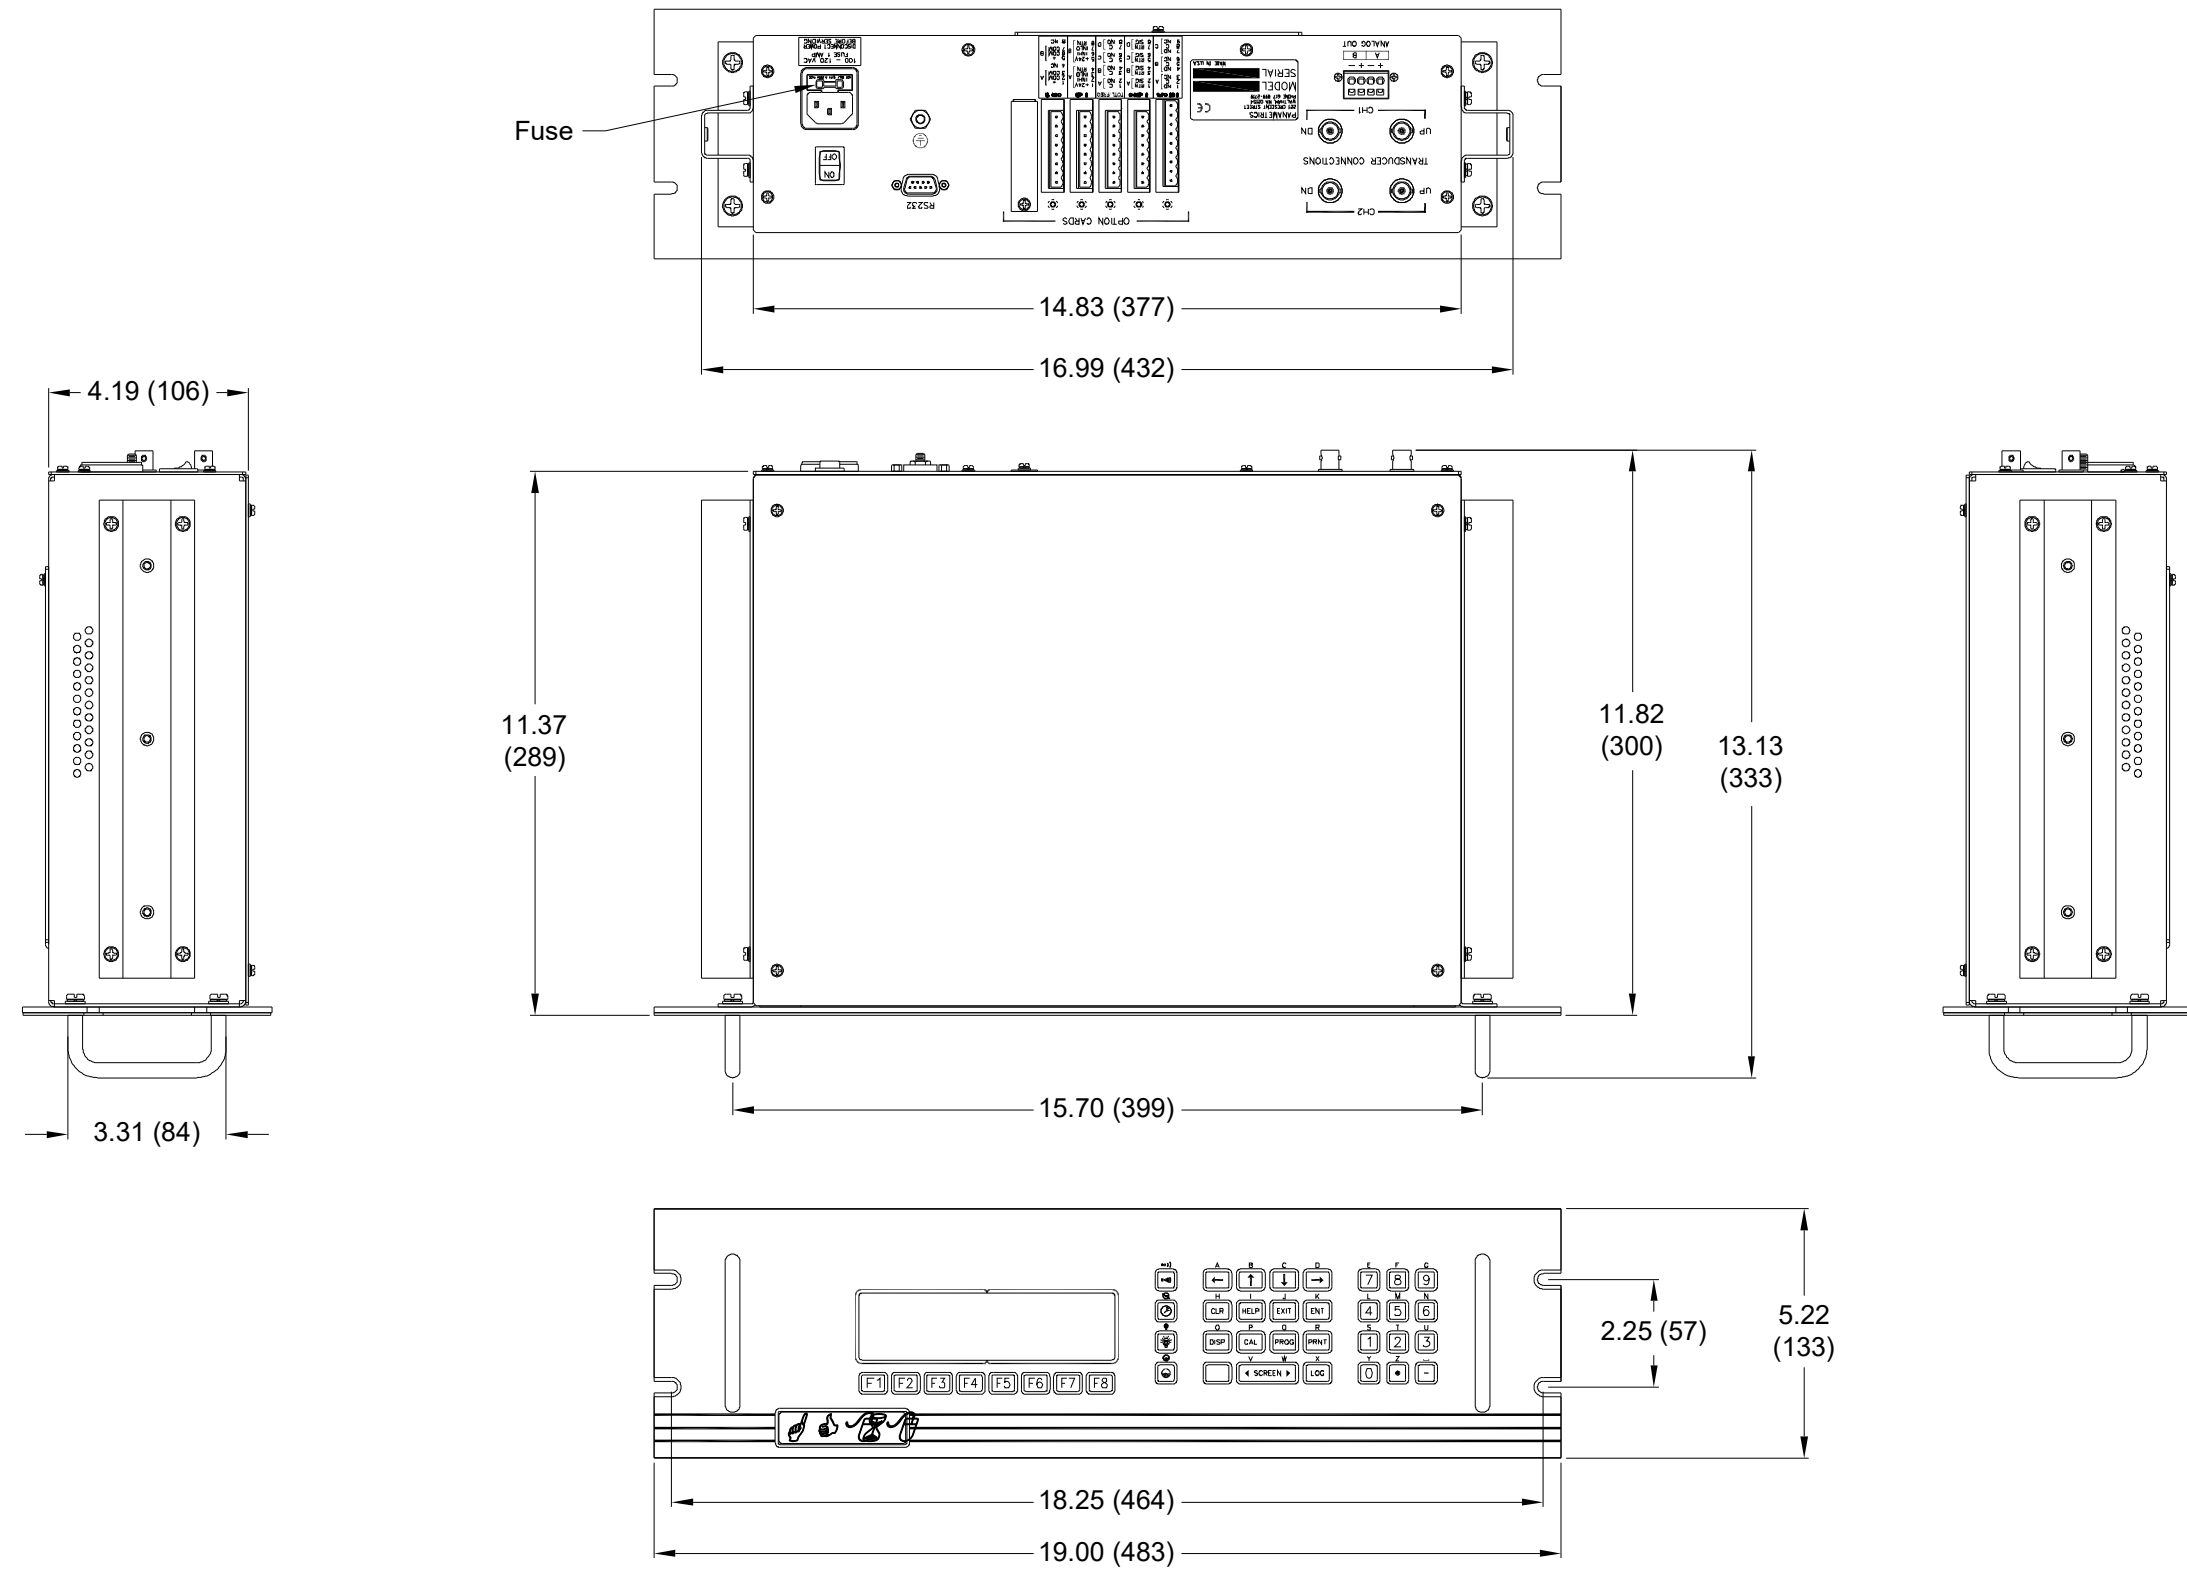
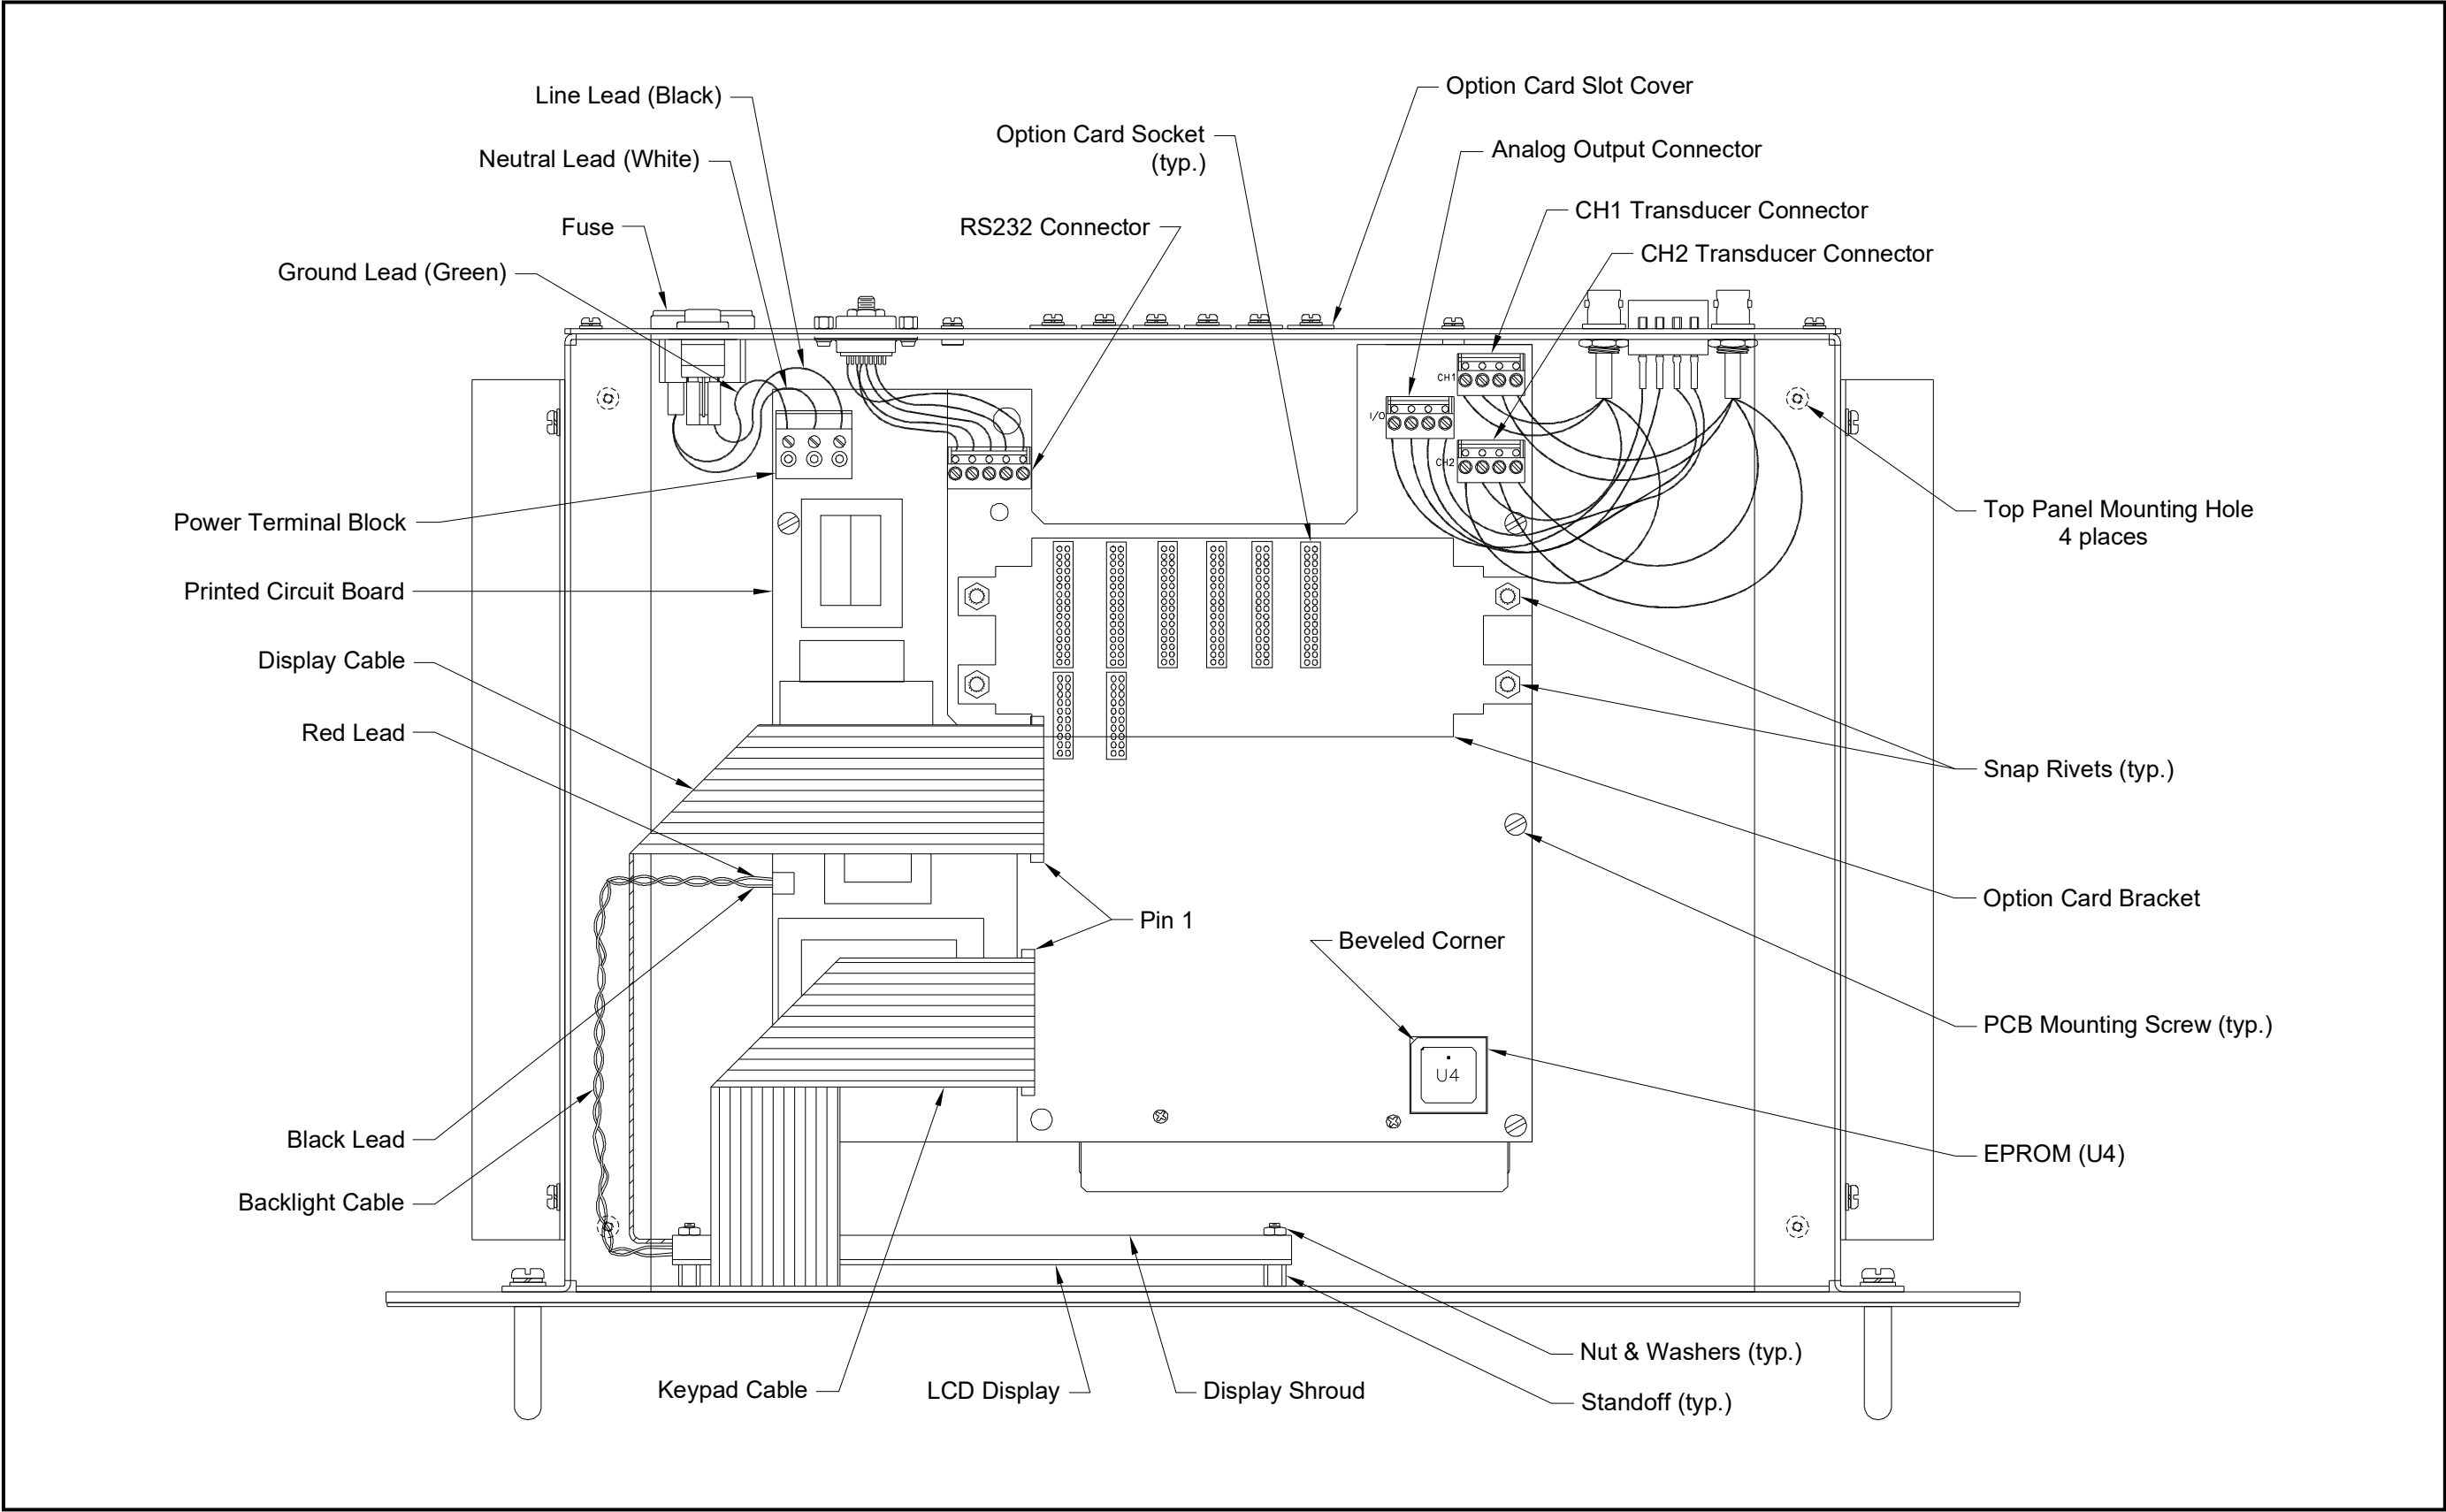

Figure 10: Model GC868 Rack Mount Enclosure Dimensions - (ref. dwg #/12-10/6)
Figure 11: Model GC868 Rack Mount Console Assembly - (ref. dwg #705-849)
Refer to *Figure 10* and *Figure 11* for the location of the relevant components, while completing the following procedures. If the top panel of the meter is accessible, service may be performed without removing the meter from the rack. Otherwise, disconnect all rear panel electrical connections and remove the meter from the rack before proceeding.
If it has been determined that the fuse in the Model GC868 requires replacement, refer to *Figure 10* and *Figure 11*, and complete the following steps:
Refer to Figure 11 and complete the following steps:
EPROM replacement may be required to replace a defective chip or to upgrade to a newer software version. To replace the EPROM, refer to *Figure 11* and complete the following steps:
To replace the LCD display, refer to *Figure 11* and complete the following steps:
Refer to *Figure 11* and complete the following steps:
5. Install the RS232, ANALOG OUT and TRANSDUCER connectors onto the printed circuit board at the locations indicated in *Figure 11*. Make sure the marked pin #1 sides of the connectors face the right side (keypad side) of the enclosure.